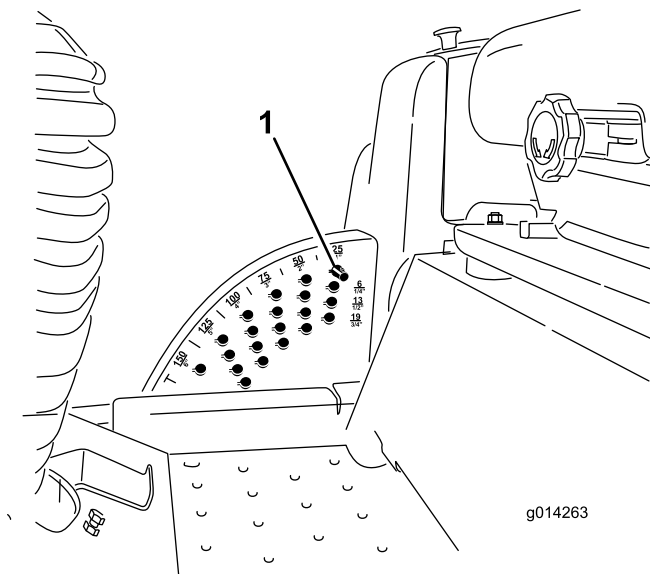

Figure 18
Note: To lock the mower deck/attachment in a raised position, raise the deck past the 6 inch (15 cm) position, remove the height of cut stop pin (refer to Adjusting the Height-of-Cut), and place the pin in the 6 inch (15 cm) height-of-cut position (Figure 18).
1. With the engine running, push back on the deck lift switch until the mower deck is fully raised and **release the switch immediately** (Figure 18).
2. To adjust, rotate the stop pin until the nub on it lines up with the slots in the holes in the height-of-cut bracket and remove it (Figure 18).
3. Select a hole in the height-of-cut bracket corresponding to the height-of-cut desired, insert the pin, and rotate it down to lock it in place (Figure 18).
Note: There are four rows of hole positions (Figure 18). The top row gives you the height of cut listed above the pin. The second row down gives you the height listed plus 1/4 inch (6 mm). The third row down gives you the height listed plus 1/2 inch (12 mm). The bottom row gives you the height listed plus 3/4 inch (18 mm). For the 6 inch (15.8 cm) position there is only one hole, located in the second row. This does not add 1/4 inch (6 mm) to the 6 inch (15.8 cm) position.